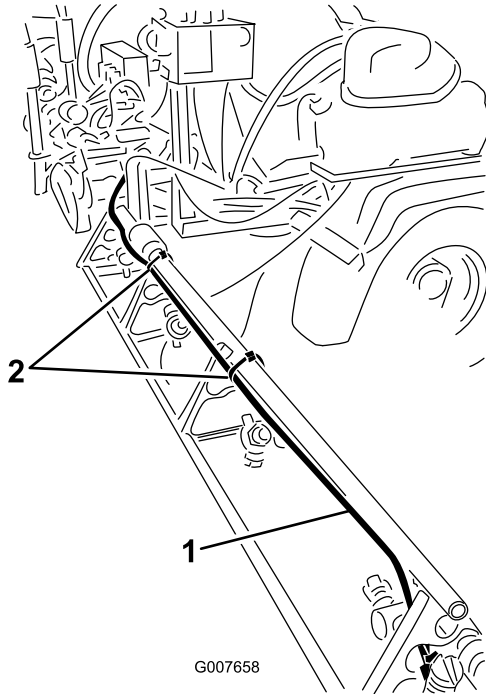

Figure 25
1. Remove the cable ties that secure the liquid and air tubes of the foam-marker kit to the outer boom section (Figure 25).